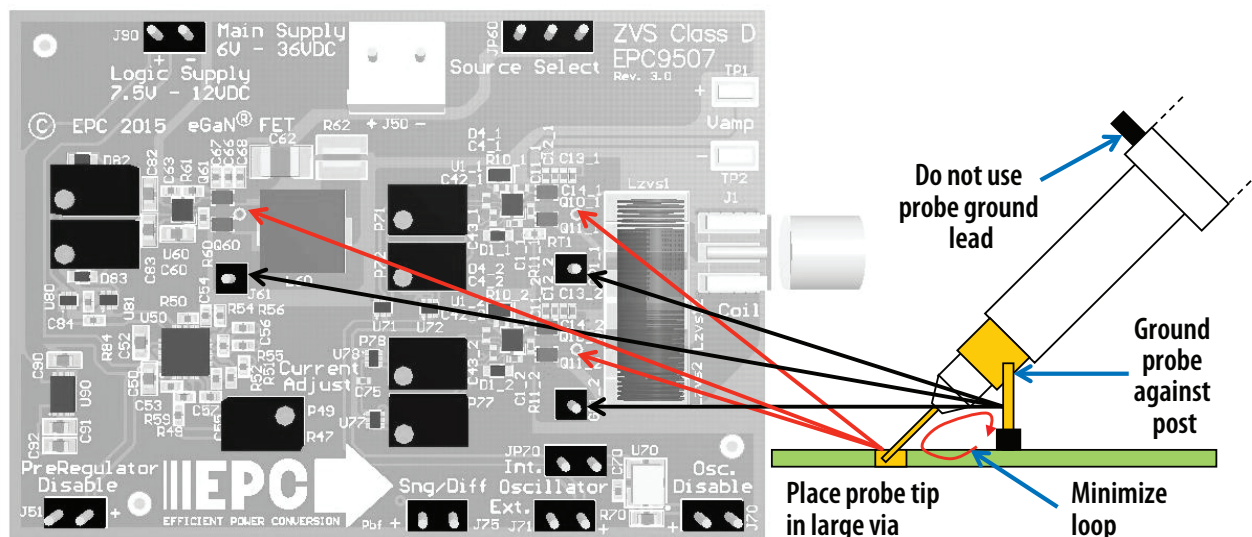

Figure 3: Proper Measurement of the Switch Nodes Using the Hole and Ground Post
3. Connect a LOW capacitance oscilloscope probe to the probe-hole J2 between the two eGaN FETs Q10\_x and Q11\_x and lean against the ground post as shown in Figure 3.
**NOTE.** When measuring the high frequency content switch-node (Source Coil Voltage), care must be taken to avoid long ground leads. An oscilloscope probe connection (preferred method) has been built into the board to simplify the measurement of the Source Coil Voltage (J2 and J3 as shown in Figure 3).